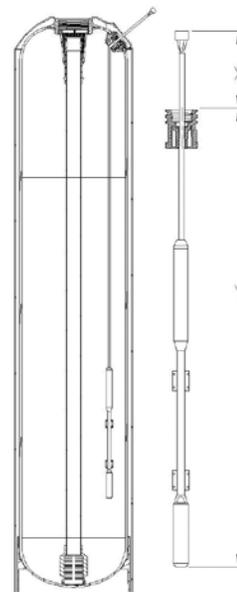

Figure 2
3. Install the outlet manifold into the tank (Figure 2).
- A. Measure the sensor cable length as shown in Figure 2 and Table 1.